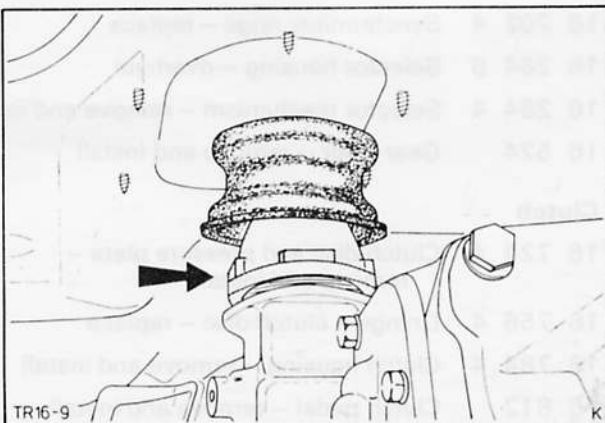

Fig. 10. Remove gear lever from underneath
4. Remove gear lever from underneath, Fig. 10.